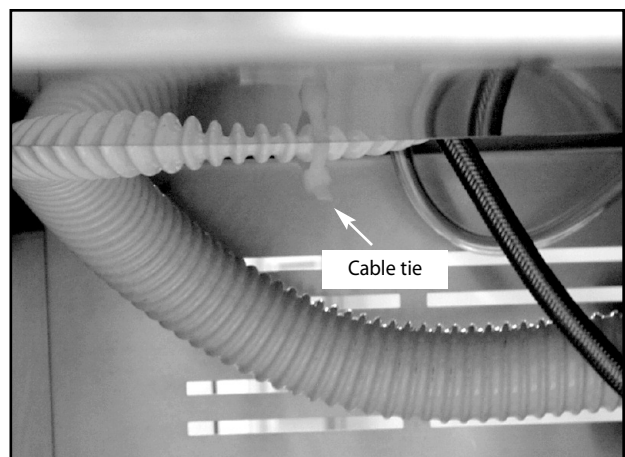

Fig. 57
14. Push the sink drain hose up and over the edge of the side panel (Fig. 56). This will prevent the interference between this hose and the top rack. It also creates proper drainage from the sink to the water tank. And/or use the cable tie provided to hold the hose up (Fig. 57).